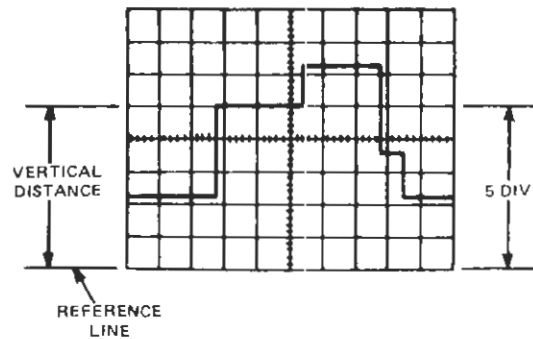

Figure 2-14. Instantaneous voltage measurement
2. Adjust the applicable TIME/DIV switch (20) or (21) for one complete cycle of waveform and set the VOLTS/DIV switch (11) for a trace amplitude of 4 to 6 divisions (see Figure 2-14).
3. Set the AC/GND/DC switch (13) to GND.
4. Use the appropriate Vertical Position control (14) or (15) to set the baseline on the central horizontal graticule line. However, if you know the signal voltage is wholly positive, use the bottommost graticule line. If you know the signal voltage to be negative, use the uppermost graticule line.
6. Use the Horizontal Position control (24) to position any point of interest on the central vertical graticule line. This line has additional calibration marks equal to 0.2 major division each. The voltage relative to ground at any point selected is equal to the number of divisions from that point to the ground-reference line multiplied by the VOLTS/DIV setting. In the example used for Figure 2-14, the voltage for a 0.5V/div scale is 2.5V (5.0 div  $\times$  .5V).